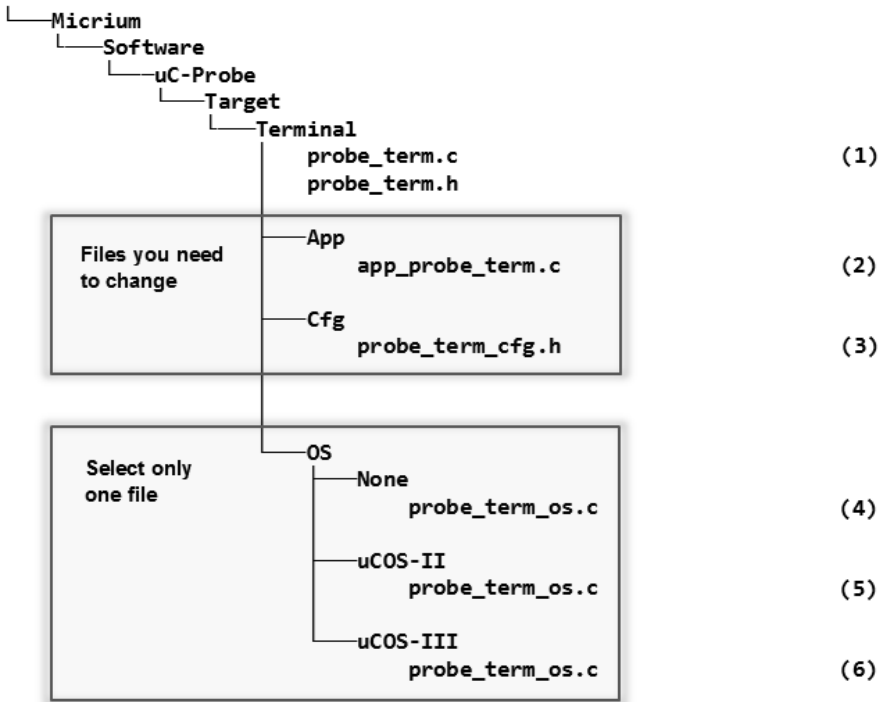

Figure E-3 Terminal Window Target Code Files
The download includes the files illustrated in Figure E-3
Configure your C project to compile all the C files shown in Figure E-3 except for the files indicated by the annotations FE-3(4) and FE-3(6).
Configure your C project to compile all the C files shown in Figure E-3 except for the files indicated by the annotations FE-3(4) and FE-3(5).
Configure your C project to compile all the files shown in Figure E-3 except for the files indicated by the annotations FE-3(5) and FE-3(6).